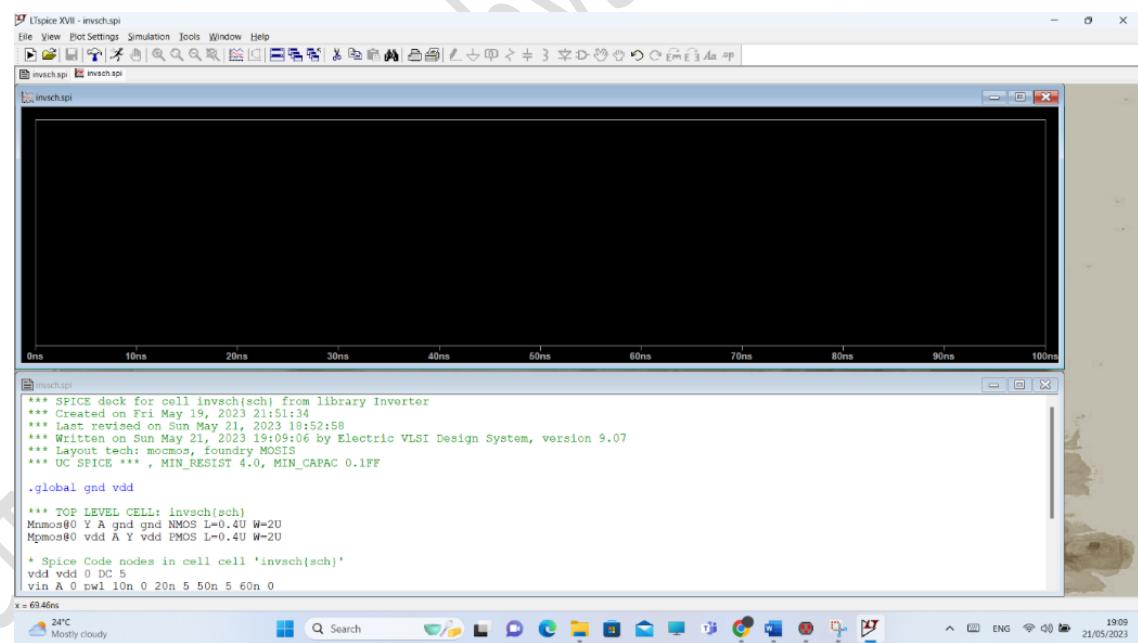

Figure 1.22: LTspice Window
16. LTspice XVII will open automatically, as Figure 1.22 shown: